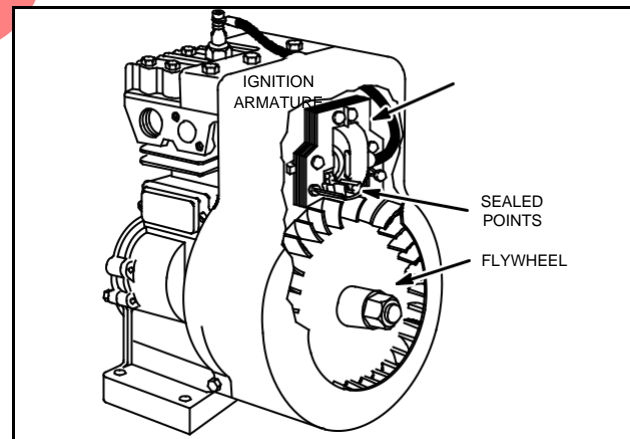

Fig. 78 – MAGNAVAC IGNITION
2. Magnavac ignition, using magnetically actuated sealed points, ignition armature and flywheel, Fig. 78.